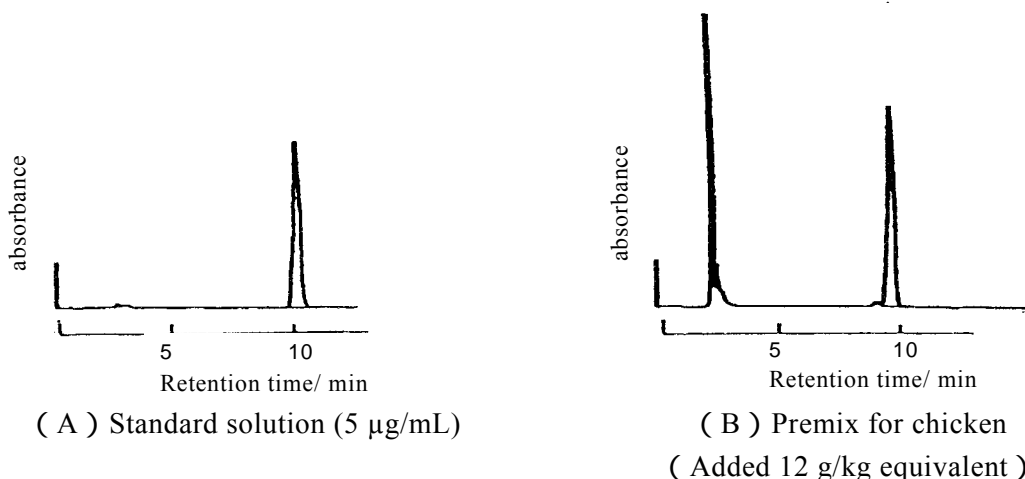

Fig. 8.1.10-2 A chromatogram of sulfaquinoxaline in a premix
- [4] An example of chromatogram of sulfaquinoxaline is shown in Fig. 8.1.10-2.